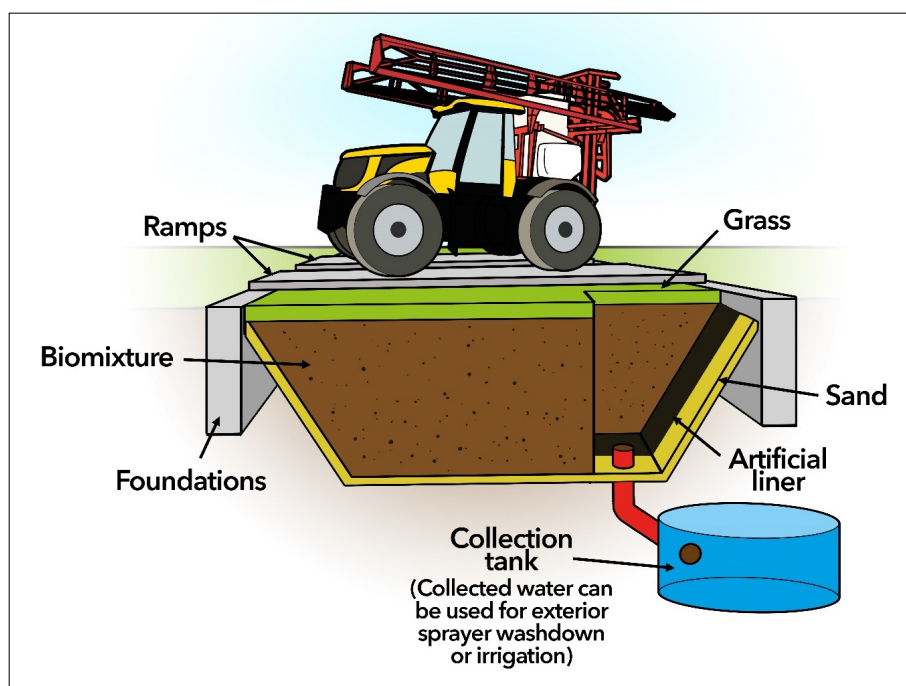

Figure 12.2. Example of a biobed.
- disposal to a biobed or biofilter (Figure 12.2) – a waste exemption must be registered with SEPA
- disposal to a **biobed or biofilter** (Figure 12.2) – a waste exemption **must** be registered with SEPA